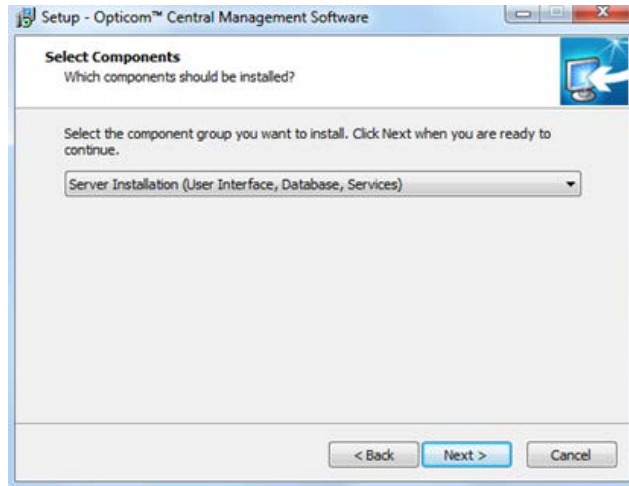

Figure 3-1
2. Select the Server installation option when prompted See Figure 3-1